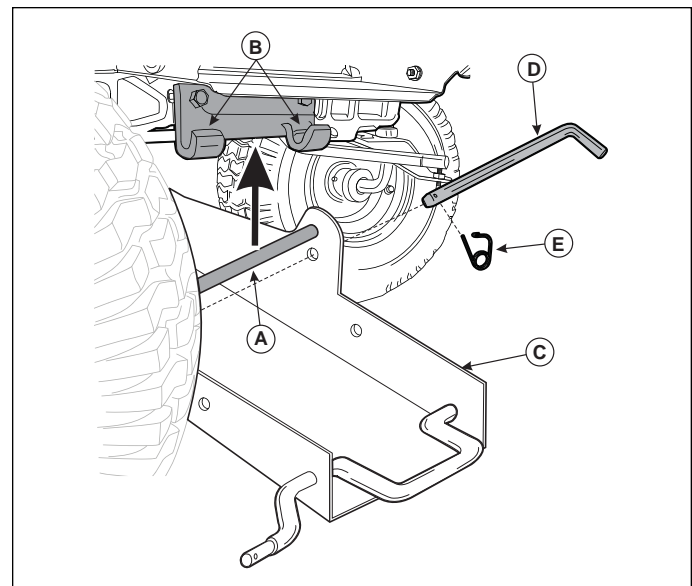

Figure 9. Hitch Latch Pin Installation
- At front of the machine, locate and remove the lower hitch latch pin (D, Figure 9) from the hitch assembly (C).
- Lift the hitch (C) and place the upper hitch latch pin (A) onto the tractor frame support fingers. From the left side of the tractor, slide lower hitch latch pin (D) through the mounting hole in hitch frame, underneath the tractor frame support fingers (B) and through the final mounting hole in hitch frame locking the hitch onto the tractor frame. Secure the lower hitch latch pin (D) with the quick clip (E).